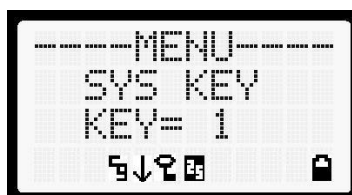
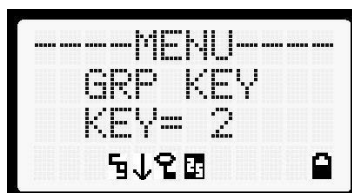

Figure 9-12: System Encryption Key Display
Figure 9-13: Group/Channel Encryption Key Display
3. Use the **[▲]** or **[▼]** button to toggle between displaying the system key (Figure 9-12) or the group/channel key (Figure 9-13).